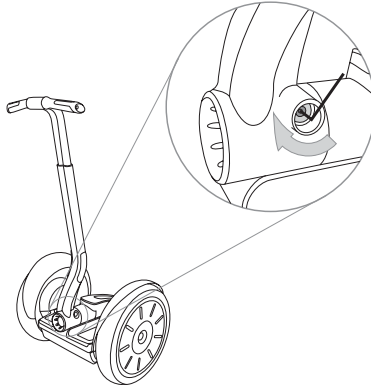

Figure 32. Tighten Fastener Holding LeanSteer Frame in Place
6. Tighten the fastener to 11.0 N-m (8.1 ft-lbf). See **Figure 32**.